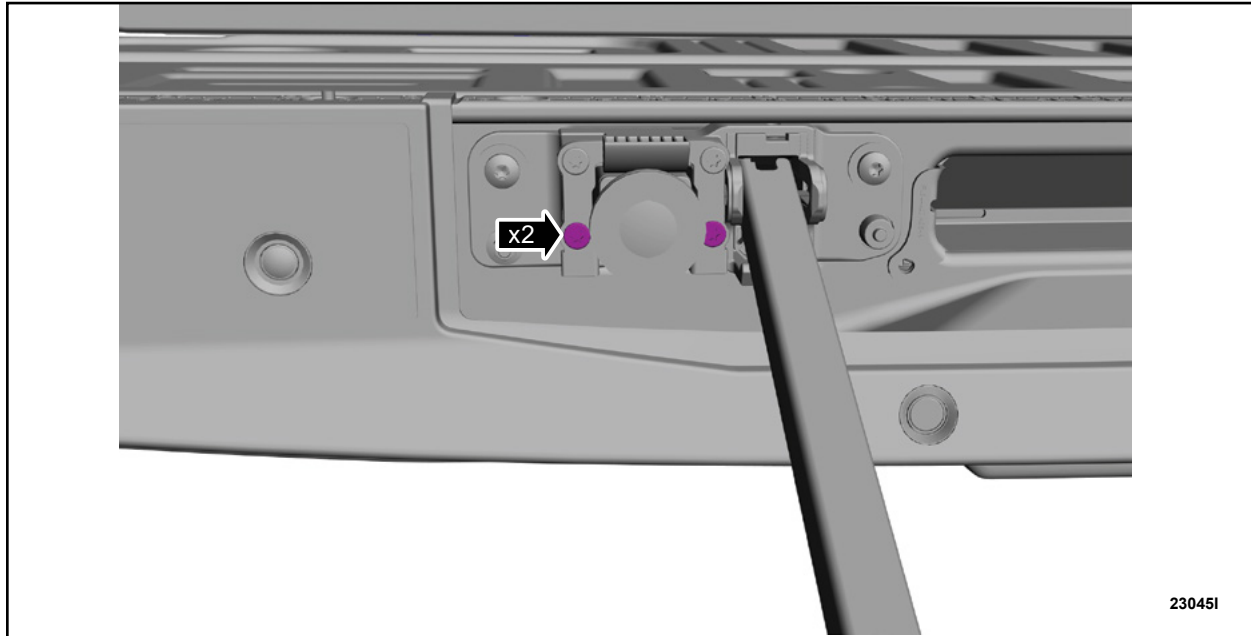

FIGURE 10
7. Install the two lower screws. See Figure 10.